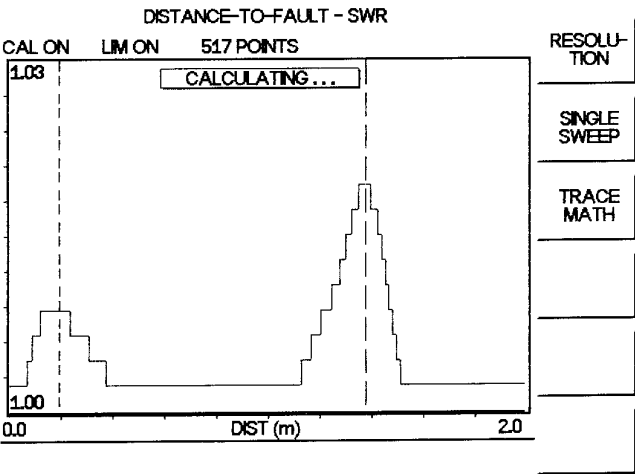

Figure 4-10. DTF - SWR Measurement Results (cable quality)
**Step 30.** Press the **MARKER TO PEAK** soft key to find the maximum SWR or Return Loss reading. (See Figures 4-10 and 4-11.)